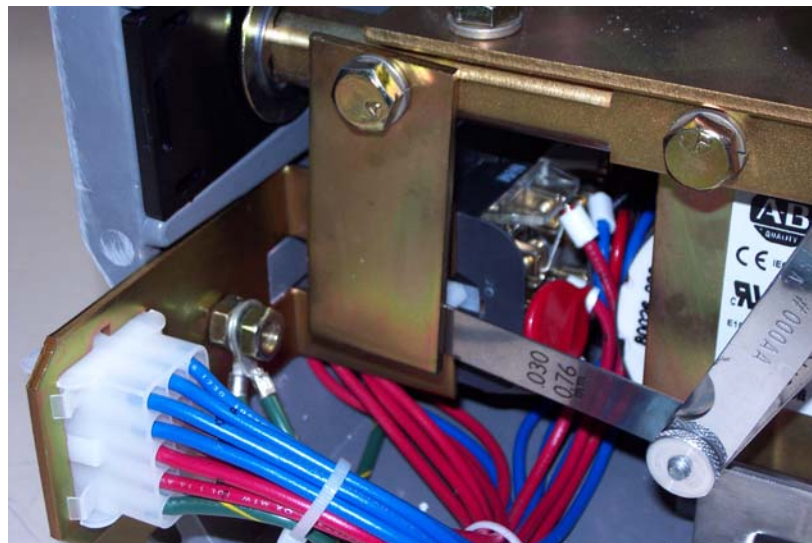

Figure 4.16 – Gauging the Contacts
5. Place a wide blade 0.030 in. (0.76 mm) feeler gauge between the plastic auxiliary actuator tips and the steel actuator plate. To aid the installation of the feeler gauge, the gauge can be put in place as the clamping block screw is being finger tightened (Step 3). Reference Figures 4.16 and 4.17.